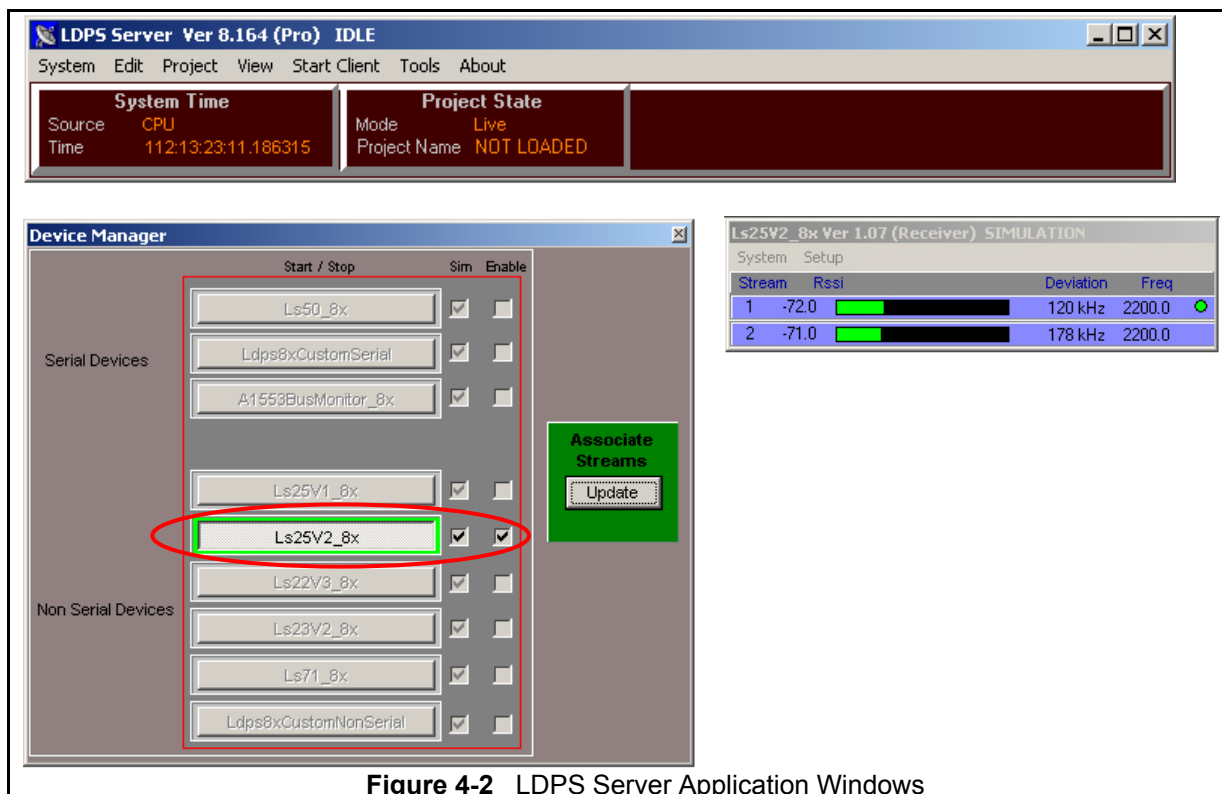

Figure 4-2 LDPS Server Application Windows
2. From the System Manager shown in Figure 4-2 below left, select the "Enable" check box next to the LS25V2 button. The "Ls25V2_8x" button will then become active (not grayed out). Note the red rectangle around the button - this indicates that the application has not yet started. Note also the "Sim" check box next to the "Enable" check box. Checking this box allows the LDPS application to operate when a LS-25 board is not installed in the system.
3. From the System Manager, click the "Ls25V2_8x" button. This will launch the "Ls25V2_8x (Receiver)" display shown in Figure 4-2 below right. Note that the red rectangle around the button has changed to green indicating that the application is now running.